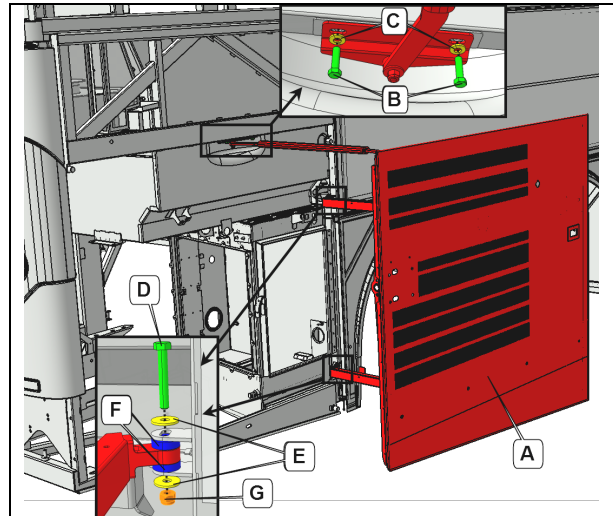

FIGURE 53: HINGES
2. Make sure bolts A are tight (FIGURE 53).